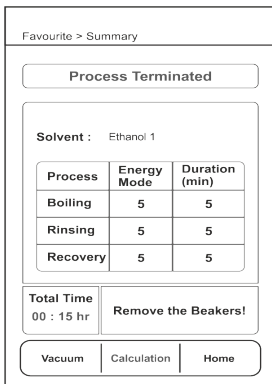

Fig. No. 30.2
g. **Process Termination** (Ref. Fig. No. 30.2)